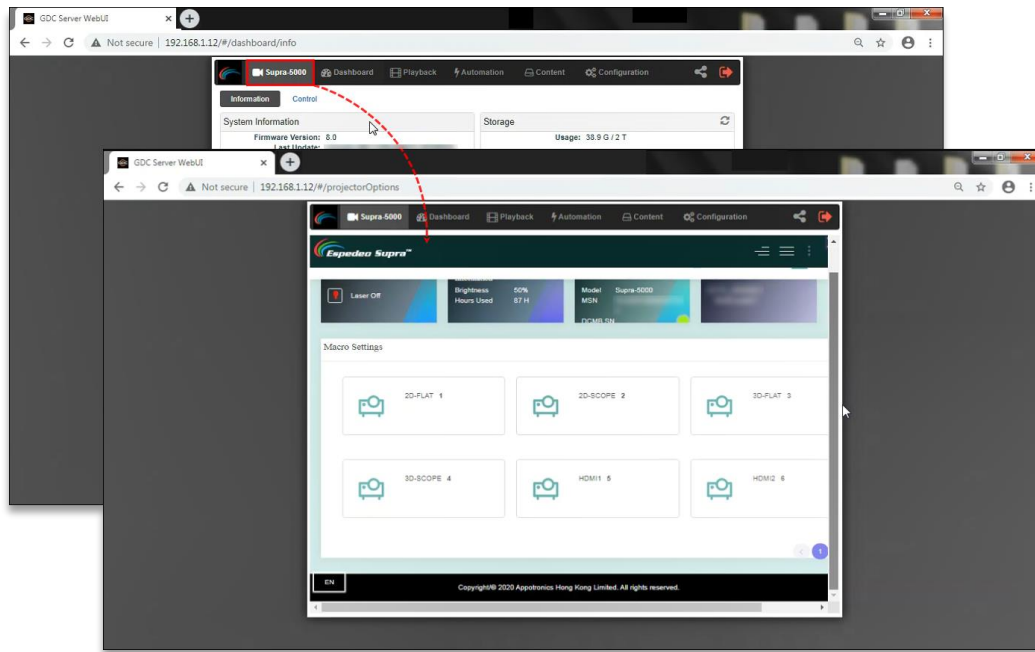

Figure 12:
- a. When the **Single tab mode** option is enabled; you can access the Supra Command Center web interface within the DCMB Web UI, by clicking on the **'Supra-5000'** tab (as shown in **Figure 12**).